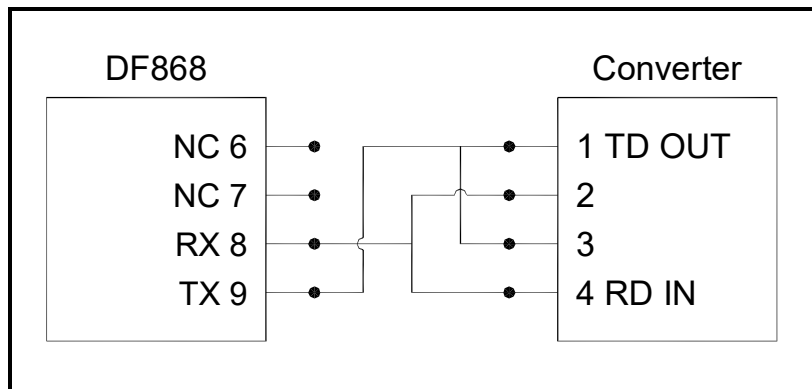

Figure 4: Typical RS485 Connections
- Feed one end of the cable through the conduit hole, wire it to terminal block J1 and secure the cable clamp. Connect the other end of the cable to the converter, as shown in Figure 4.